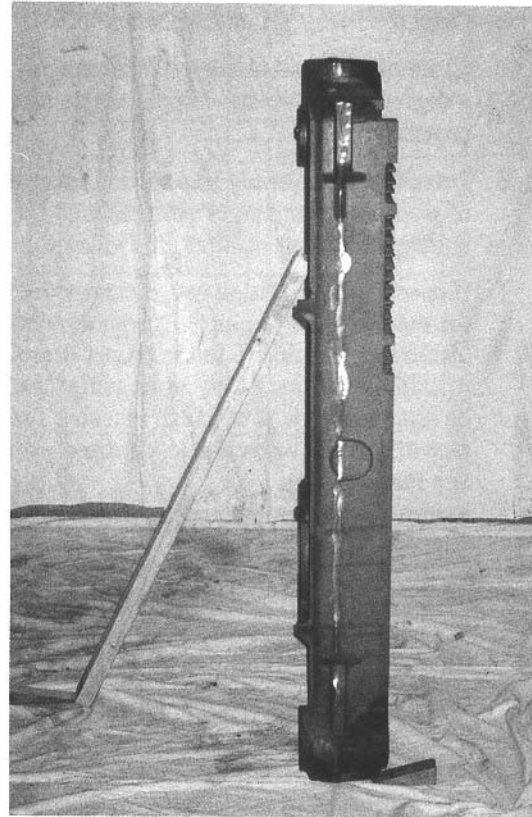

Figure 5: Positioning of Back Section
- a. Place the rear section in its approximate final position, as outlined in Section I and support it with a suitable prop. See Figure 5.